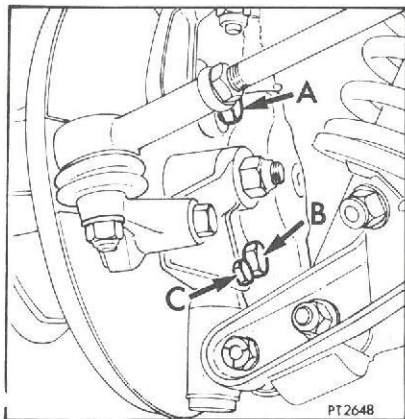

Fig. 25
#### Lower Steering Swivel (Fig. 25)
2. Without disturbing the hydraulic pipe unions, unscrew the caliper securing bolts (A and B, Fig. 25) and lift the caliper from the disc, tying it to a convenient point to prevent it hanging by the attached hydraulic pipe. Note the number of shims fitted between the caliper and the vertical link.
3. Prise off grease cap (11), withdraw the split pin (12) and unscrew the slotted nut (10). Remove the "D" washer (9) and pull the hub assembly from the stub axle.